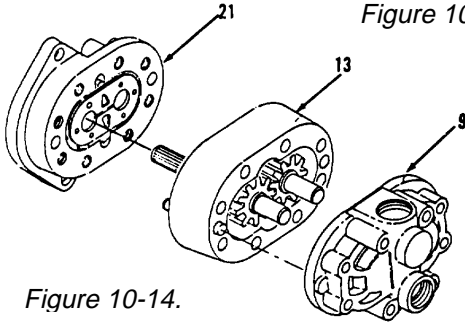

Figure 10-14.
- 84. Position front plate (21), body (13) and back plate (9, Figure 10-14).